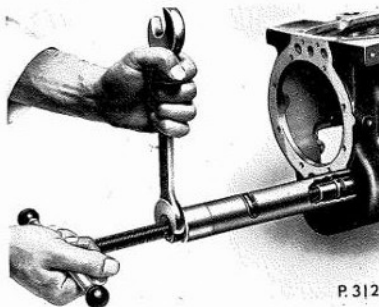

Fig. E.11. Withdrawing the reverse gear shaft using Churchill Tool R.G.101B and Adaptor R.G.101B-3
14. Withdraw the reverse gear shaft from the rear of the casing, if necessary, using R.G.101B and adaptor R.G.101B-3 which can be screwed into the $\frac{3}{8}$ in. U.N.F. tapped hole in the rear of the reverse gear shaft (see Fig. E.11). After removing the shaft, the reverse gear can be lifted out of the casing.